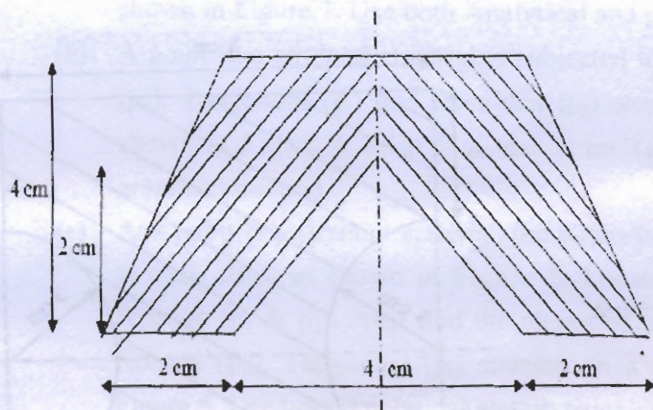

Fig. 7
- (d)** Determine the moment of inertia of the shaded area shown by section lines in the **Figure 7** about centroidal axes XX. 04